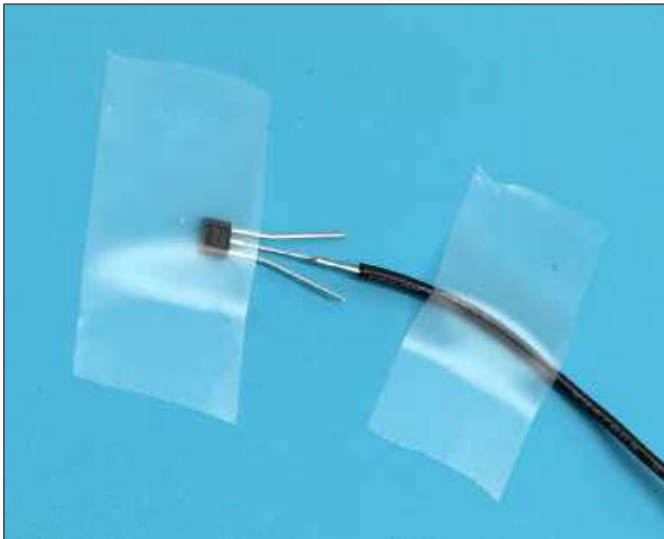

Figure 1.14. Example of securing components using tape.
- Secure parts when soldering. See *Figures 1.14* and *1.15*.